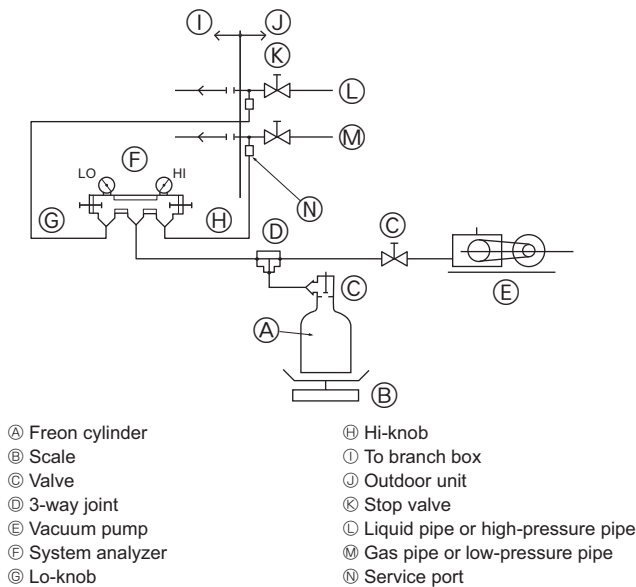

Fig. 5-12
- \* Turn section ① only. (Do not further tighten sections ① and ② together.)
### ② Evacuation (Fig. 5-12)